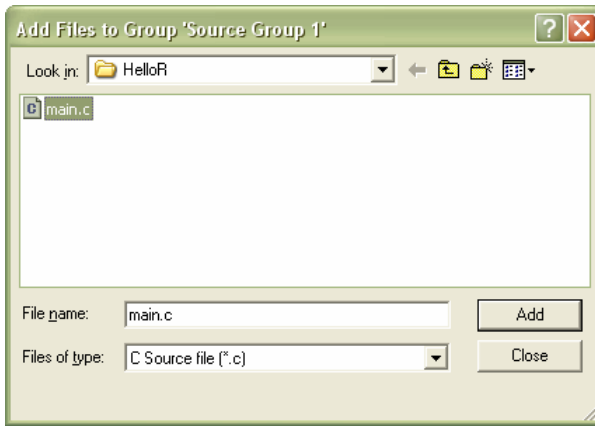

FIGURE 13 Adding the newly created main.c file to the project.
- Select “main.c” and click `Add` (Figure 13).